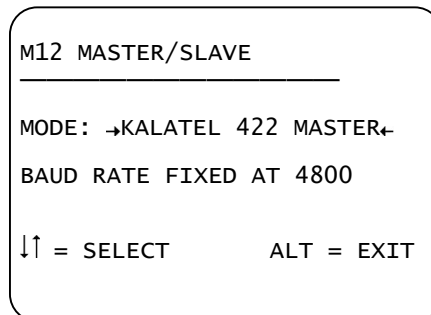

Figure 22. Edit Time menu
- 1) Press **1** to advance to the Master/Slave menu (Figure 22.)